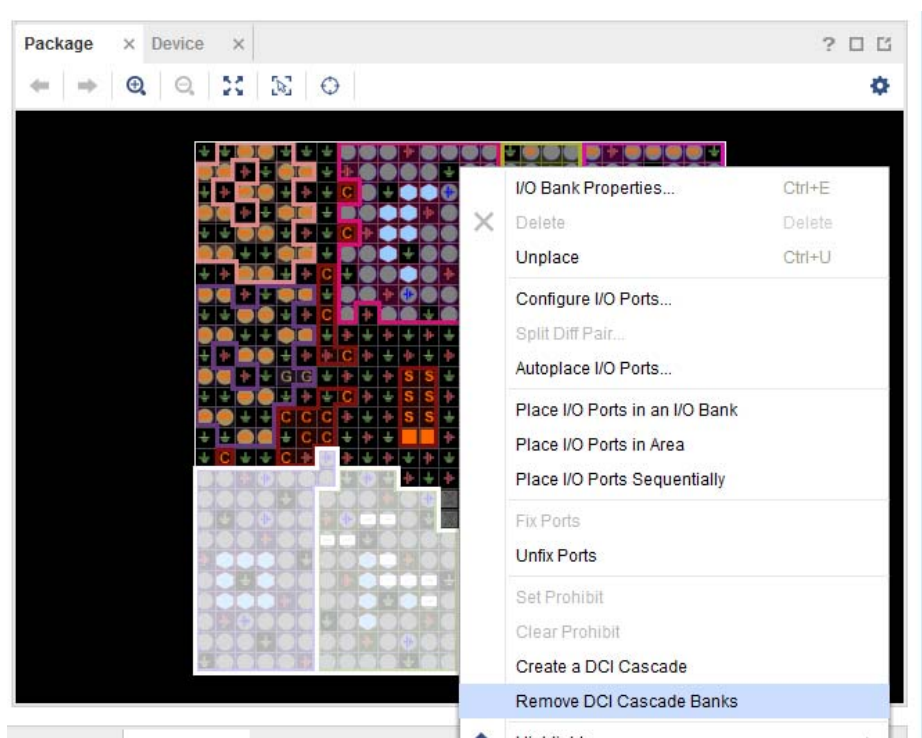

Figure 2-5: Removing DCI Cascade Banks
- To remove an entire DCI cascade, right-click the DCI cascade, and select **Remove DCI Cascade Banks** (Figure 2-5).